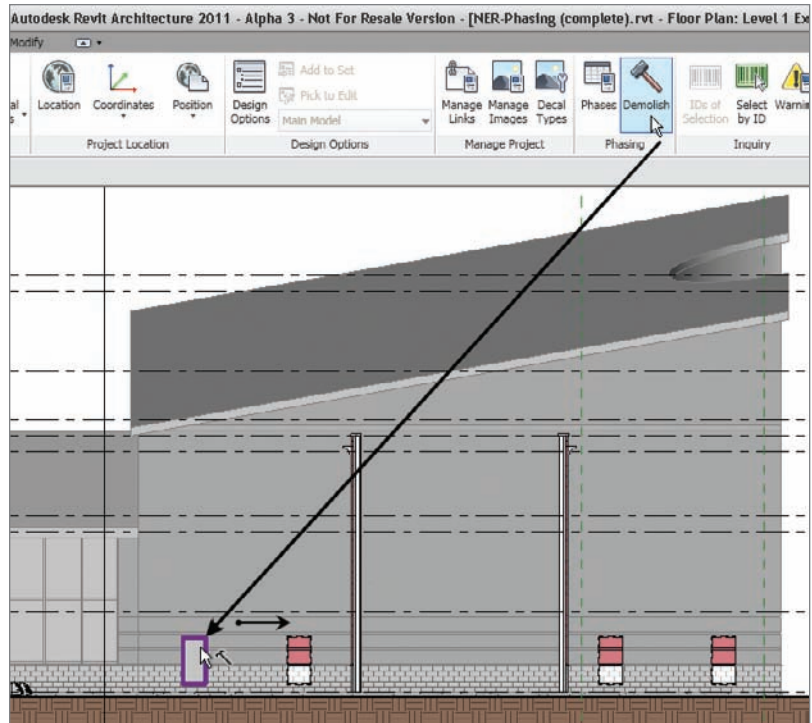

FIGURE 21.11 Demolishing the windows
3. On the Manage tab, click the Demolish button (with the hammer icon) on the Phasing panel, as shown in Figure 21.11.